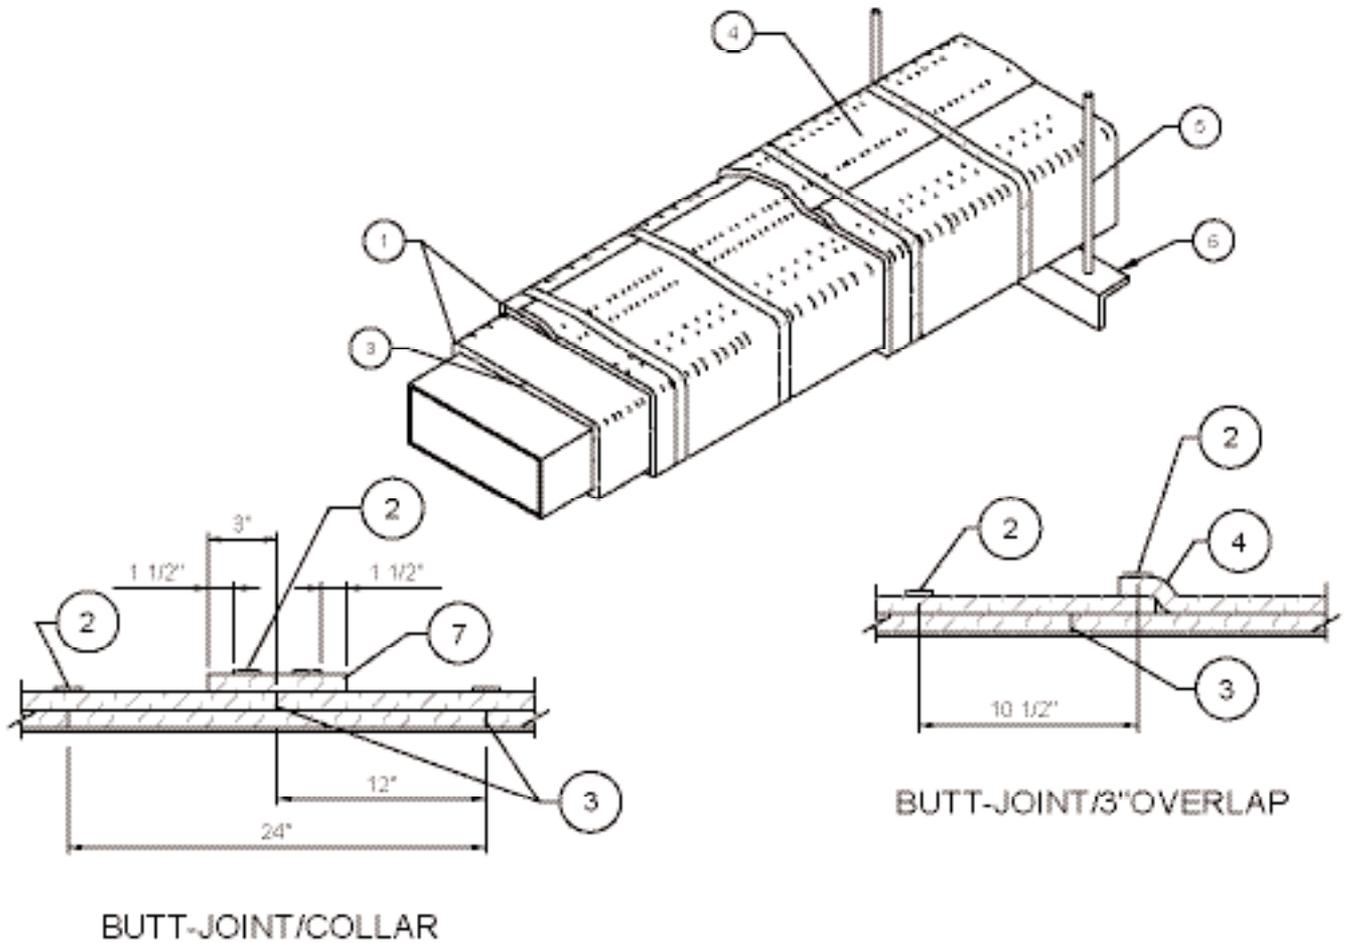

Figure 2
A. First Layer – Butt Joint (Figure 2)
B. Second Layer – 3" Overlap, or 6" Collar (Figure 2)
1. Banding (Figure 2) - Minimum ½" wide carbon steel or stainless steel banding, 0.015" thick, is placed around the entire perimeter of the insulated duct with maximum 10½" spacing centers and 1½" from each blanket edge or 1½" from each collar edge when using the butt joint and collar method. When banding, filament tape can be used to temporarily hold the blanket in place until the banding is applied. The banding is placed around the material and tightened so as to firmly hold the FastWrap XL in place against the duct, but not cause any cutting or damage to the blanket.